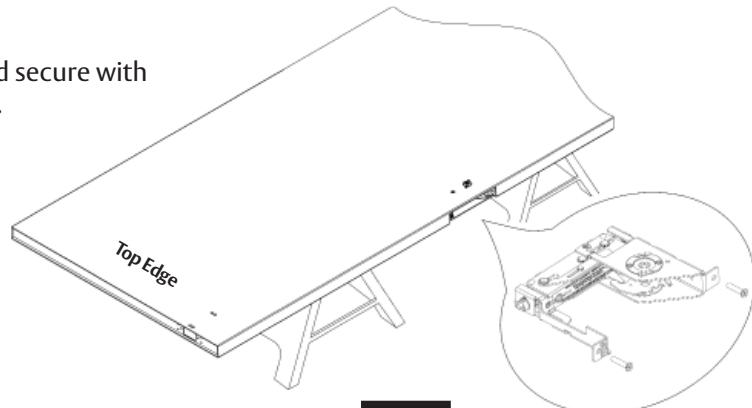

Figure 35
- Slide the LBC into the door case and secure with two (2) #12-24x1" flat head screws. (Figure 35)